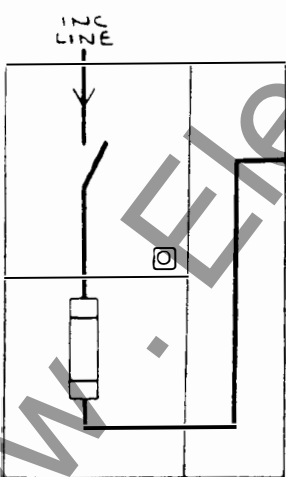

FIG. 3
Load center incoming line equipments (LVP) - (Fig. 3, 4, 5)
3. LVP Two-Position Air-Interrupter Switch Fig. 3